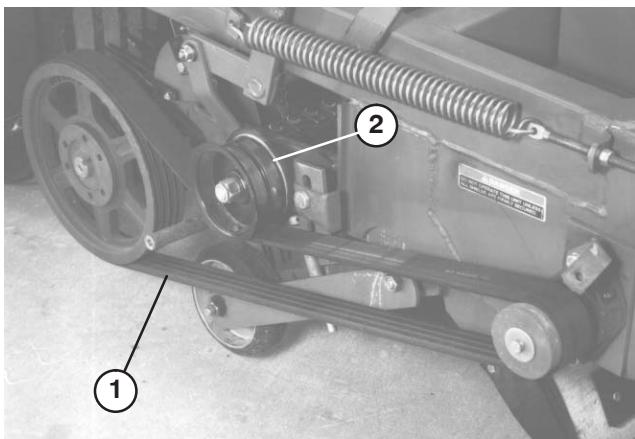

**Figure 28**
- Remove (2) capscrews, nut, retaining nut and washer securing lower belt guard to frame (Fig. 28). Remove guard.
3. Remove lower belt guard (Fig. 28) and reel drive belt (Fig. 29).
4. Remove (2) capscrews, lockwashers and nuts securing reel shaft bearings to reel support arms on each side of sweeper. Lower flex tip reel to the ground.
1. Remove lower belt guard (Fig. 28) and reel drive belt (Fig. 29).